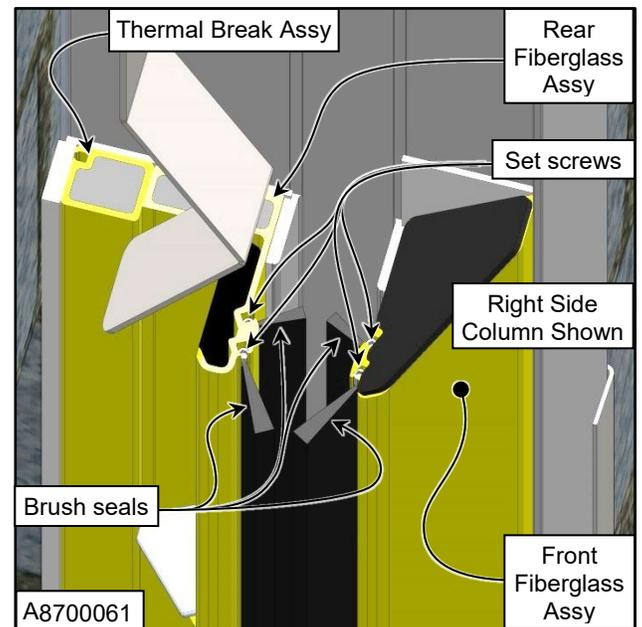

Figure 56
3. Remove screw(s) from the top of the brush seal. (See Figure 56)
4. Remove the old brush seal by sliding it out of the track. (See Figure 56)
6. Re-Install screw(s) into the track to lock the new brush seal in place. (See Figure 56)